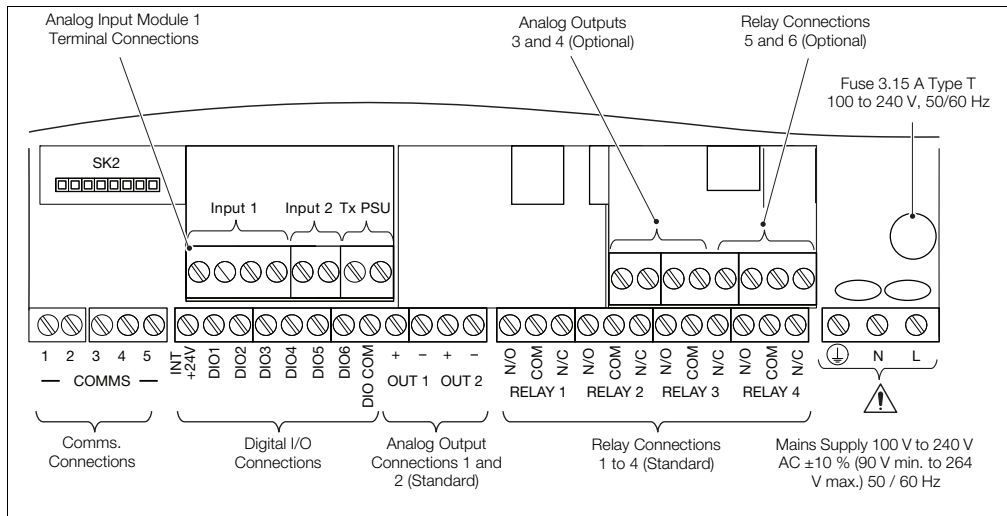

Fig. 4.15 ControlMaster CMF160 Terminal Connections
1. Using a pozi-drive screwdriver, turn the (captive) electronics section door retaining screw (A) $\frac{1}{4}$ turn counter-clockwise and open the door.
2. Turn the cover plate retaining screw (B) anti-clockwise until the cover plate (C) can be removed.
3. Make connections to connection board terminals – see Fig. 4.15, page 22.
4. Refit cover plate (C) and secure it by turning retaining screw (B) clockwise until finger-tight. Close the door and turn door retaining screw (A) $\frac{1}{4}$ turn clockwise to secure.